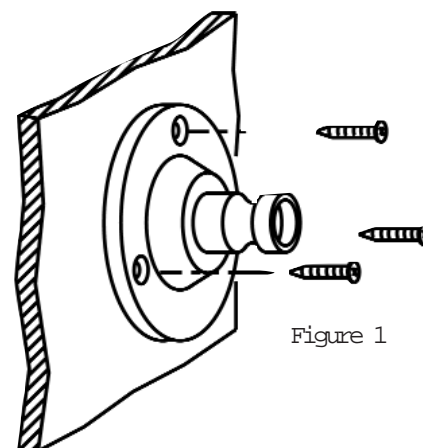

Figure 1
**STEP 1** - For easier installation, remove the flange (base) from the speaker by unscrewing the wing nut while at the same time pressing inwardly on the wing nut (see Figure 1). Place the flange flush with the mounting surface and mark the location of the three holes with either a marker or chisel. It is important that the three holes be exactly aligned with the flange, otherwise you might stress the base or make the connection unsteady. Insert 3 wall anchors - see diagrams on back for drilling instructions and use of anchors. (Use appropriate hardware for your specific mounting surface.)
Fold and insert anchor in hole (see Figure 1).